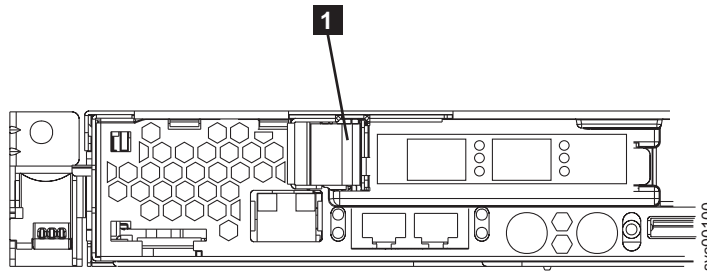

Figure 116. PCI slot 1 card retainer
1. Install the fibre-channel card in slot 1. See Figure 116.